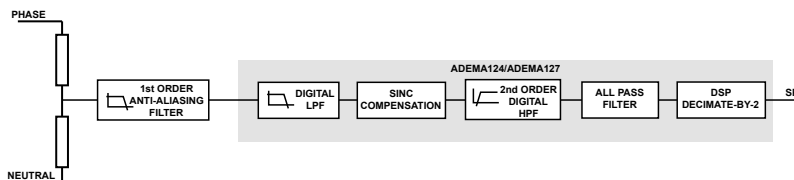

Figure 4. Recommended DSP Configuration for Phase Voltage Sense with for Matched Group Delays to Digital Integrator
- ▶ All Pass Filter (ALLPASS_EN_CHx). The group delay of this block is matched to the digital integrator block. When the Enable the APF on any channel with the digital integrator not enabled, if using the digital integrator. See Figure 4.